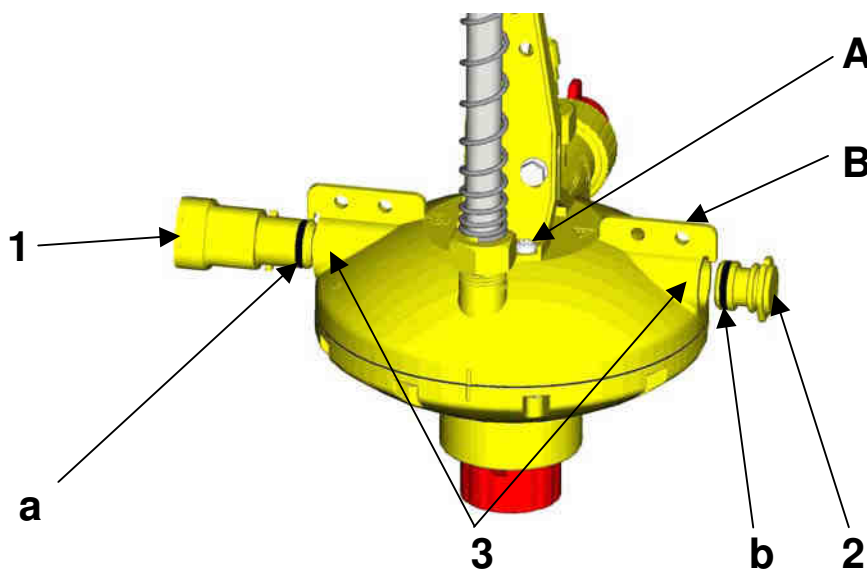

fig. 1
- Coat O-ring with lubricant (vaseline, acidless fat, detergent) (see fig. 1 on page 2).